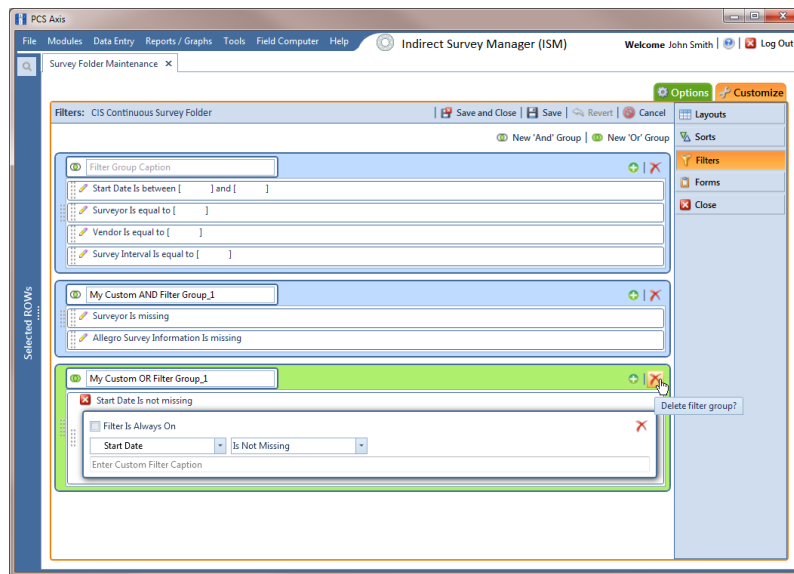

Figure 6-23. Filters
- 8 To delete a filter in a filter group, click the filter's  delete button (Figure 6-23). Then click  **OK** when the *Delete* message displays.
- 12 Click the  close button to close the filter's property settings group box (Figure 6-23, page 219).